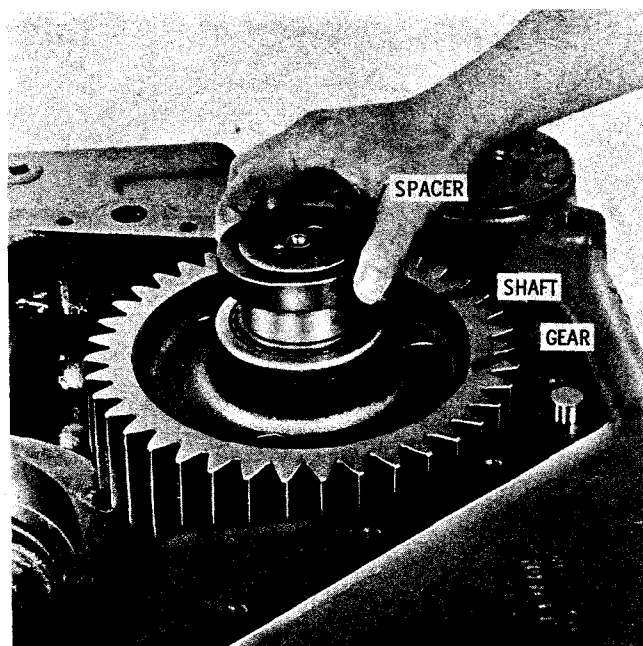

Fig. 5-91. Removing spacer from rear of output shaft (models with no rear output)
(14) Remove the output driven gear spacer from the output shaft (fig. 5-91). Remove the output driven gear from the shaft.